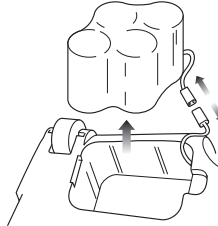

Fig. 15
- 4 Carefully lift out the battery pack and disconnect the wire terminals by pressing on the latch and pulling apart the wire terminal connectors. Remove the battery pack. (Fig. 15)